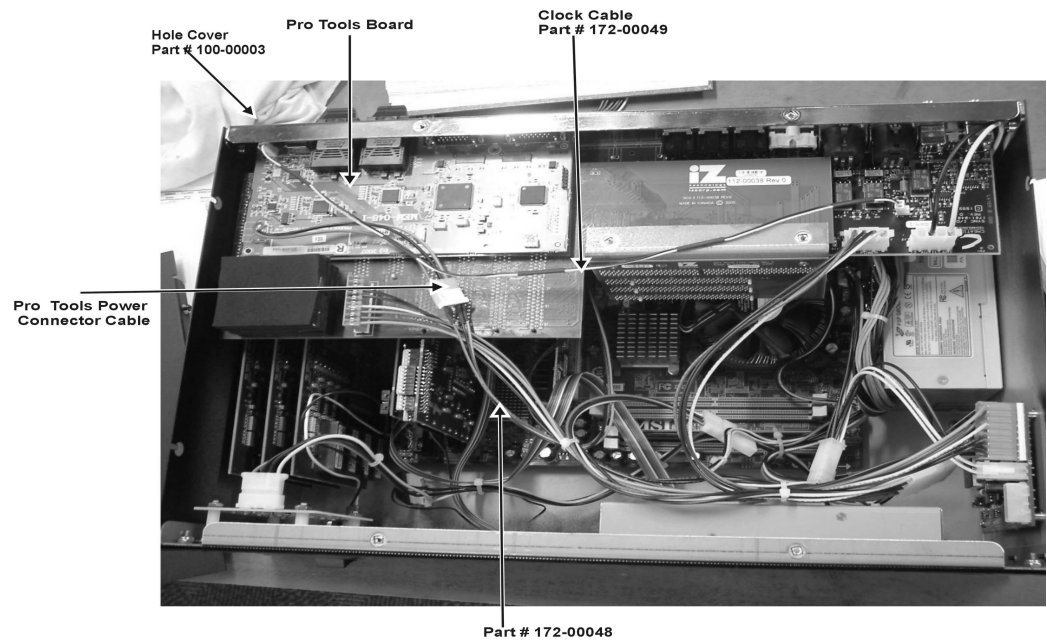

Figure 1 ADA unit with Pro Tools Card
- 6 Insert provided hole cover (part # 100-00003 in Fig.1) by pushing on the cover.
- 7 Connect one end of the provided Clock cable (black and white, part # 172-00049 in Fig.1) to the 2 pin connector marked CN10 on Pro Tools card.
- 8 Install Pro Tools card as shown in Fig.1.
- 11** Plug the other end of the Clock cable (black and white, part # 172-00049 in Fig.1) to the 2 pin connector on SYNC I/O card.